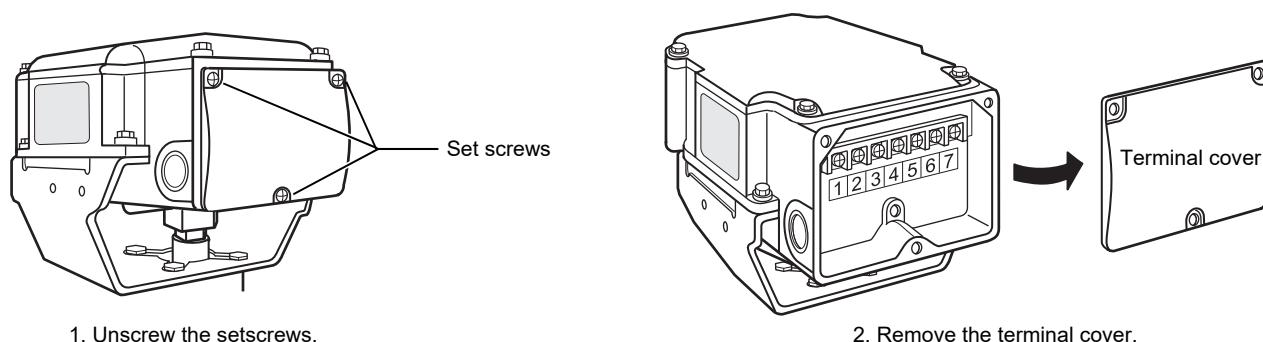

Figure 9. Terminal cover removal
- 2) Unscrew the 3 setscrews (M4 × 10) of the terminal cover and remove the terminal cover, as shown in Fig. 9.